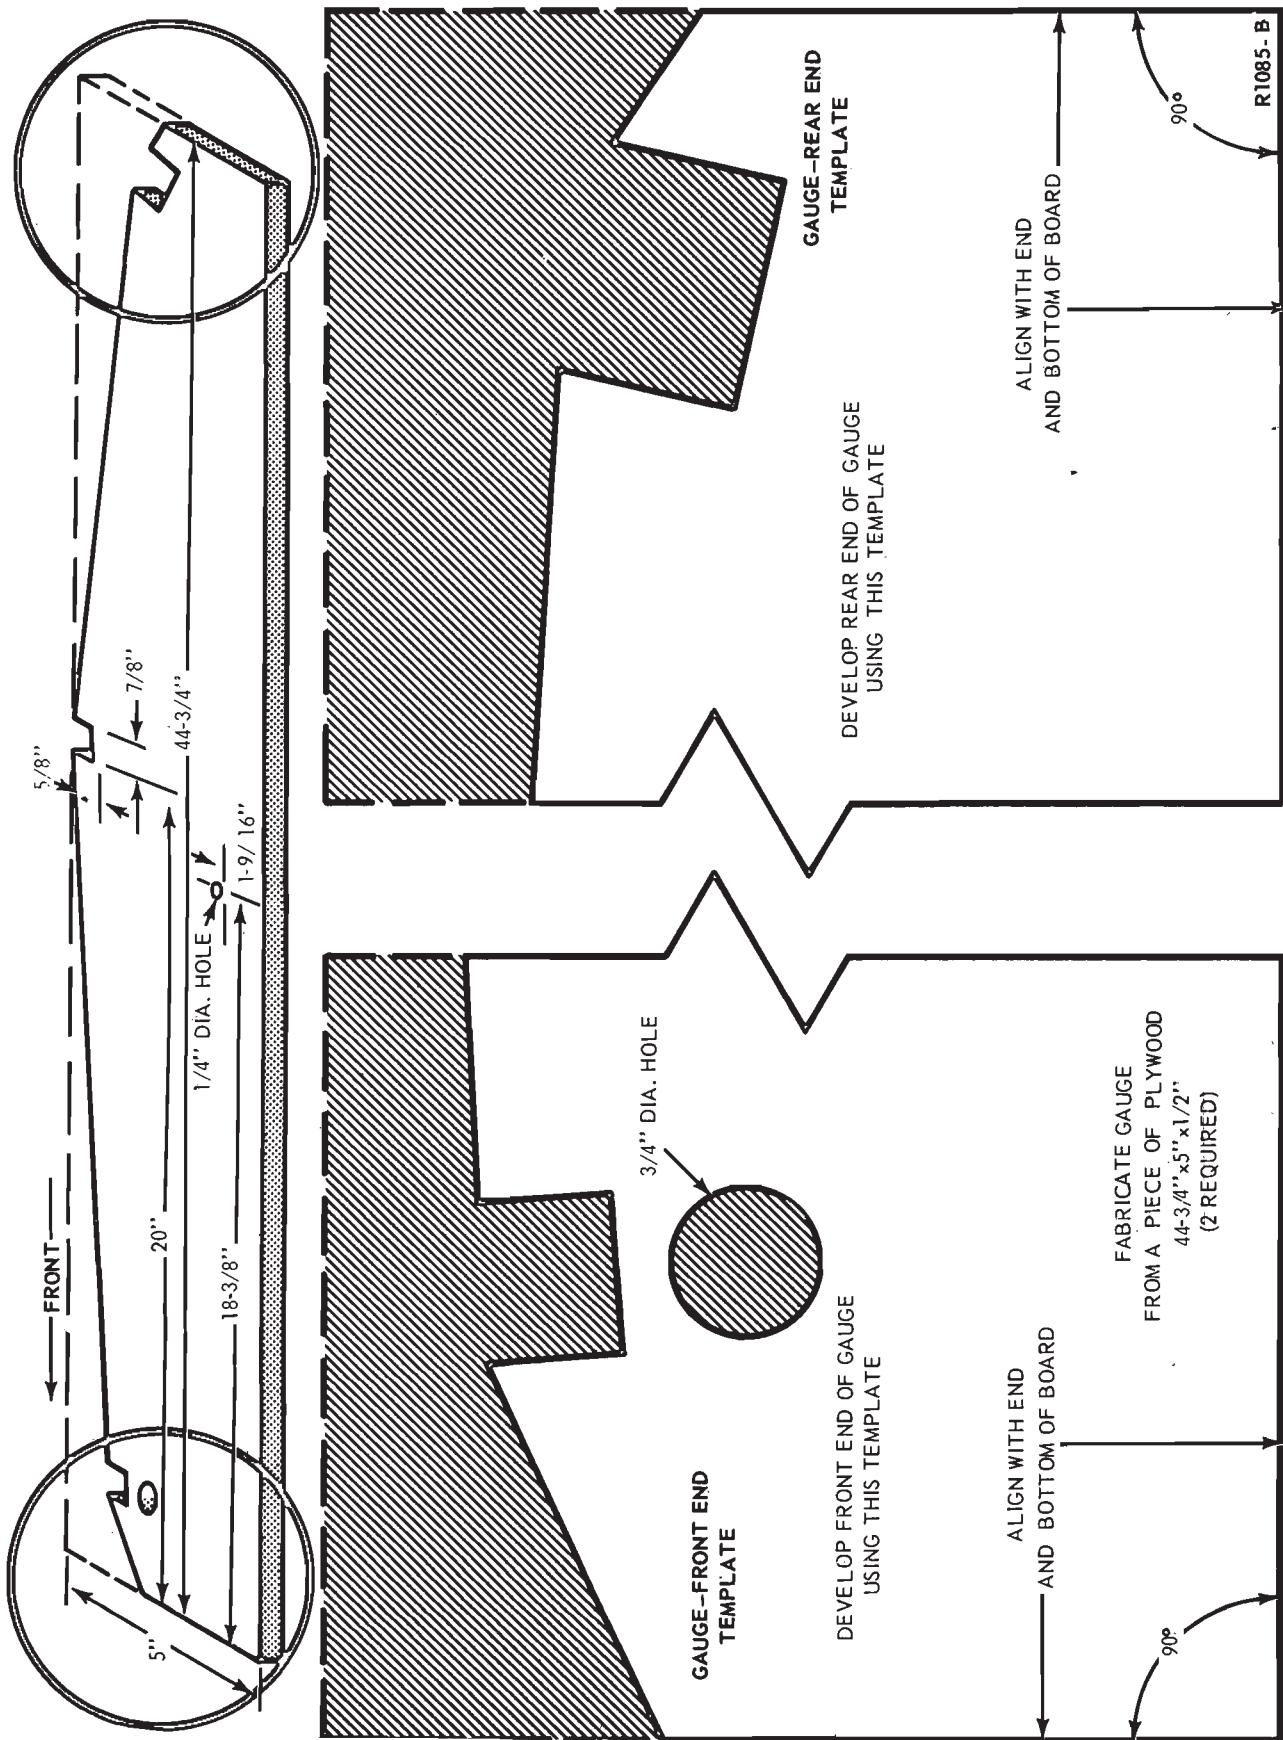

FIG. 8—Bow Locating Gauge Fabrication—Ford, Meteor, Mercury
7. Remove both side rail coat hanger hooks and install the two fabricated bow alignment gauges (Fig. 8). Retain each gauge with a No. 8-18 x 1 1/4-inch pan-head screw and washer inserted into the 1/4-inch diameter hole in the gauge (Fig. 8).
Fabricate two bow locating gauges to the dimensions illustrated in Fig. 8.
10. Install the two fabricated gauges for aligning the No. 2, 3 and 4 bows. Align the 1/4-inch hole in the wooden gauge with the coat hanger hook hole in the side rail and secure each gauge to the side rail with a No. 8-18 x 1 1/4-inch pan-head screw and washer (Fig. 8).